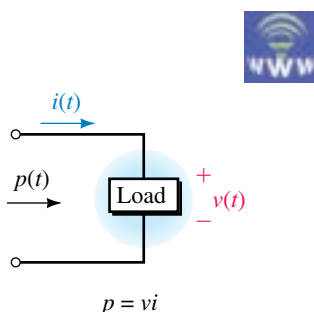

FIGURE 17-1 Voltage, current, and power references. When p is positive, power is in the direction of the reference arrow.
At any given instant, the power to a load is equal to the product of voltage times current (Figure 17-1). This means that if voltage and current vary with time, so will power. This time-varying power is referred to as **instantaneous power** and is given the symbol $p(t)$ or just p . Thus,
1. If the power at some instant in Figure 17-1 is $p = -27 \text{ W}$, in what direction is the power at that instant?
The relationships described above were developed using the load of Figure 17-1. However, they hold true for every element in a circuit, no matter how complex the circuit or how its elements are interconnected. Further, in any circuit, total real power P_T is found by summing real power to all circuit elements, while total reactive power Q_T is found by summing reactive power, taking into account that inductive Q is positive and capacitive Q is negative.